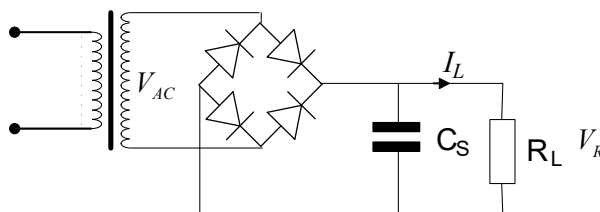

Figure Q2
- Q2. For the full-wave diode rectifier circuit shown in Figure Q2, assuming the input voltage is $V_{AC} = 60 \sin(100\pi t)$, the conduction angle of the diode is 30° , the load resistance $R_L = 10 \Omega$, and the capacitor $C_S = 15,000 \mu\text{F}$. We assume that all components are perfect and neglect the voltage drop across the diodes.